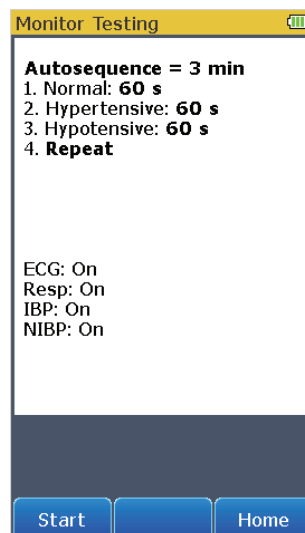

Figure 19. Monitor Testing Autosequence Screen
2. Touch one of the autosequence controls to show the autosequence steps in the display. The Monitor Testing autosequence is shown in Figure 19.
3. Touch the **Start** softkey to start the sequence and show the screen in Figure 19 in the display.